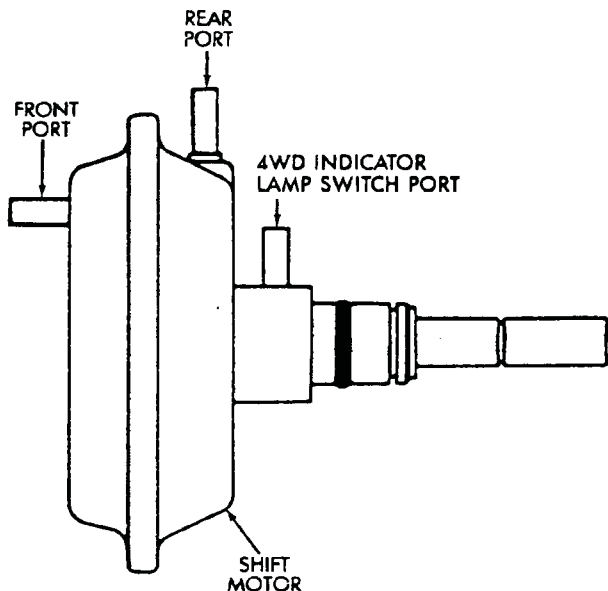

Fig. 1-10 Axle Vacuum Shift Motor
1. Raise the vehicle. Disconnect the vacuum harness from the axle shift motor and connect a vacuum pump to the vacuum shift motor front port (Fig. 1-10).
4. Disconnect the vacuum pump from the vacuum shift motor front port (Fig. 1-10). Connect the vacuum pump to the vacuum shift motor rear port, cap the port for the indicator lamp switch,